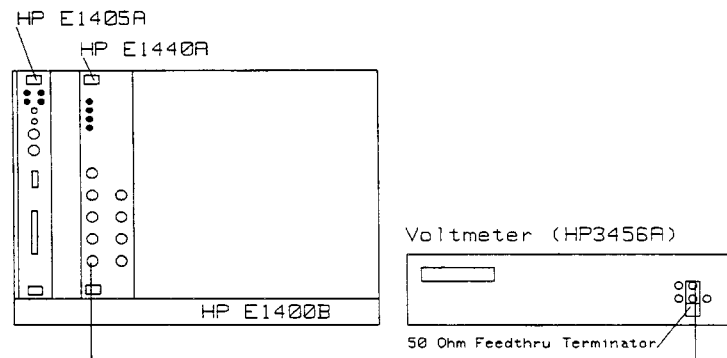

Figure C-12. DC Offset Test Set-Up
1. Connect the equipment as shown in Figure C-12, and set the voltmeter to measure DC voltage.